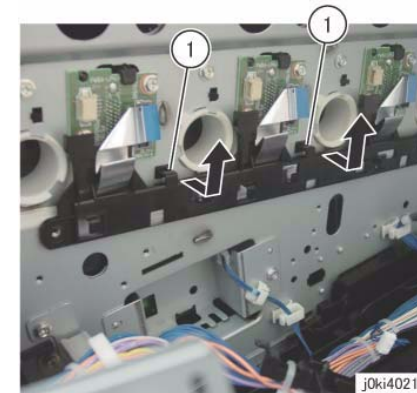

Figure 8 Remove the LPH Cable Assembly
14. Remove the LPH Cable Assembly. (Figure 8)